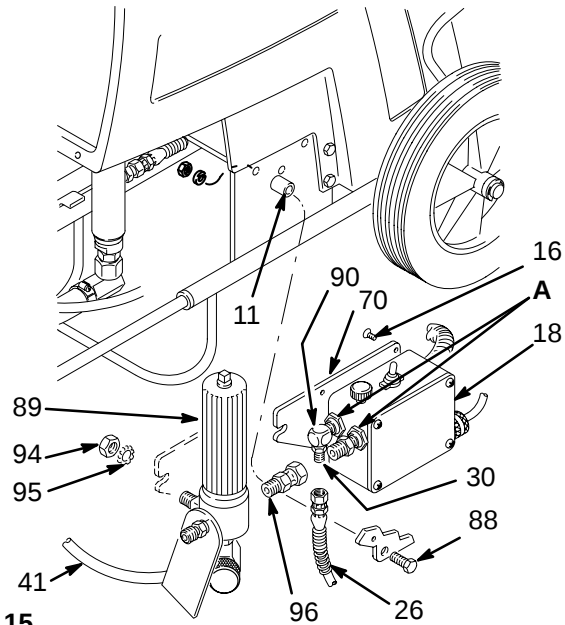

Fig 15
4. Remove the screws (88). See Fig 15.
5. Pull the pressure control (18) away from the conduit (13f) while carefully guiding the leads through the bushing (305), one at a time.
6. Remove the mounting bracket (70) and fittings (96,90,30) and the filter (89). Install these parts on the new pressure control.